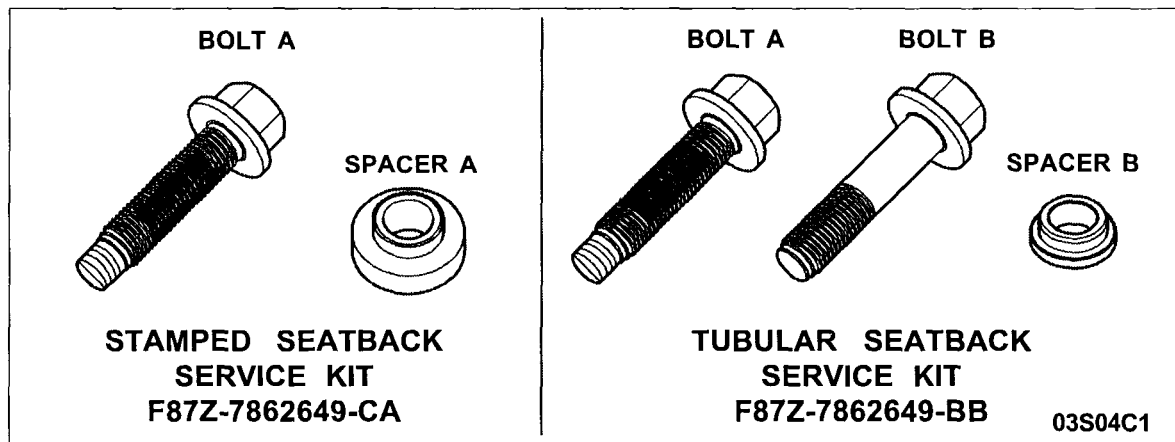

FIGURE 3
For each type of seat, a different service kit is required. Kits are NOT interchangeable. See Figure 3.
13. **CAUTION:** Be sure to use the correct spacer for the application. Refer to Figure 3.